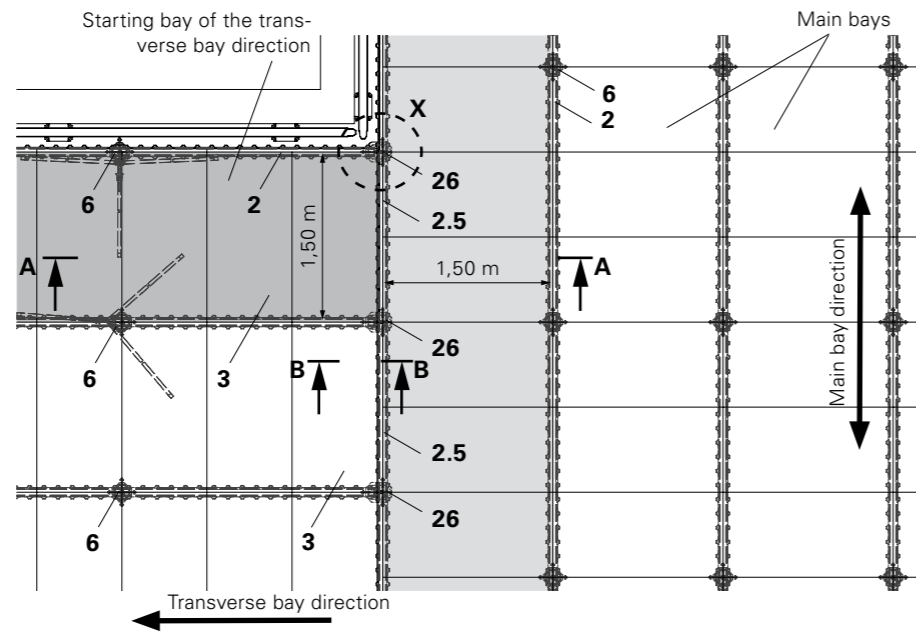

Fig. A10.02
(Fig. A10.02)
1. Install slab prop with Prophead SSK (26) with a spacing of 1.50 m and secure with tripods.
2. Mount Main Beam SLT 150 (2.5) instead of SLT 225. (Fig. A10.02 + A10.02a)
3. Continue assembling in the direction of the transverse bay with slab prop, Prophead SSK (6) and Main Beams SLT: see Section A4 Shuttering. (Fig. A10.02 + A10.03) Secure slab props with tripods.
4. Install Panels SDP 150 x 75 (3) in the direction of the transverse bay. (Fig. A10.02)